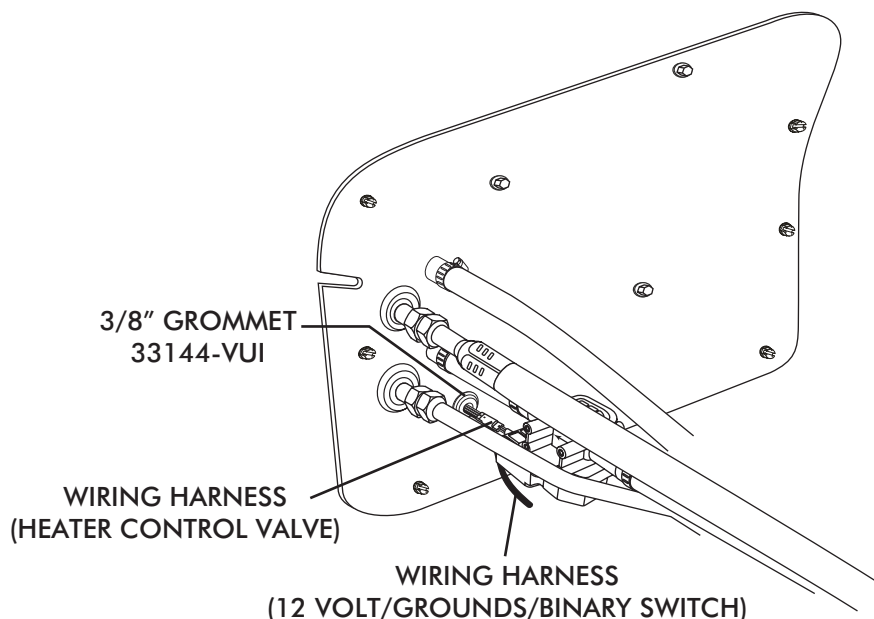

FIGURE 16
- ☐ ROUTE A/C WIRES THROUGH 3/8" GROMMET AS SHOWN ON FIGURE 16 (12 VOLT/GROUND/BINARY SWITCH/HEATER VALVE).